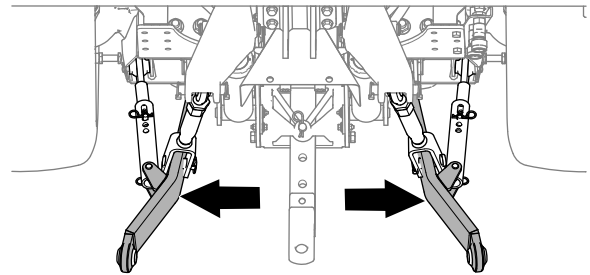

Figure 20
4. Adjust the stabilizer arms (Figure 20) outward fully; refer to the *Operator's Manuals* for the tow machine.